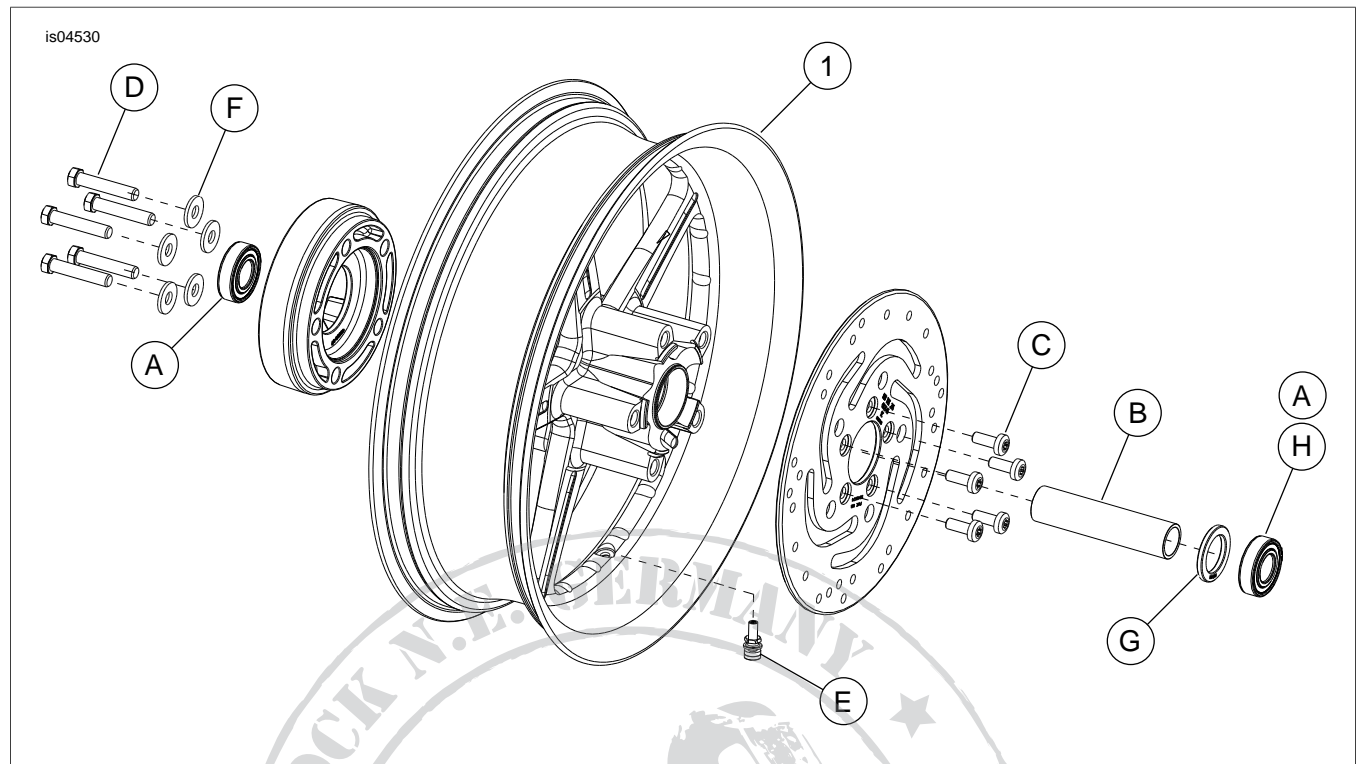

Figure 1. Service Parts: Rear Reactor Wheels
See Figure 1 and Service Parts Tables.
2. See Figure 1. Install valve stem assembly (E) on wheel following the instructions in the appropriate Service Manual.